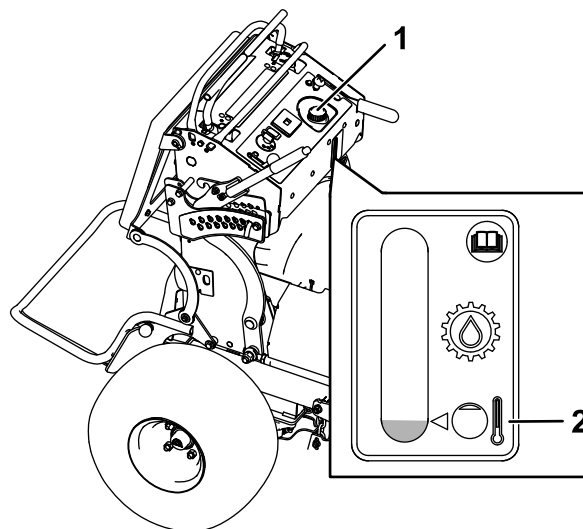

Figure 70
4. Clean the area around the cap and the filler neck of the hydraulic tank (Figure 70).
5. Remove the cap from the filler neck (Figure 70).